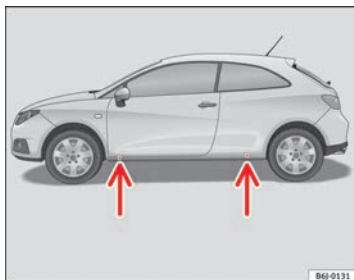

Fig. 137 Jack position points
- Locate the jacking point under the door sill closest to the wheel to be changed ⇒ Fig. 137.
Recesses at the front and rear of the door sills mark the jacking points ⇒ Fig. 137. There is only one jacking point for each wheel. Do not fit the jack anywhere else.